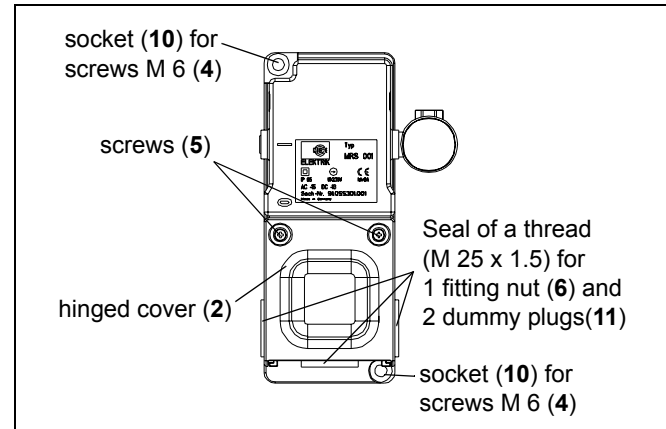

Fig. 5-4: Mounting and dismounting
2. Screw in a fitting nut (6) into the thread (M 25 x 1.5) of the misalignment switch.
4. Open the hinged cover (2) of the misalignment switch by loosening the two screws (5) (s. fig. 5-4).
5. Put the connection cable through the fitting nut (6) (s. fig. 5-4).
7. Close the hinged cover (2) of the misalignment switch and retighten the two screws (5) (s. fig. 5-4).
1. Open the hinged cover (2) by loosening the two screws (5) (s. fig. 5-4).
3. Unscrew the fitting nut (6) and pull the connection cable out of the misalignment switch (s. fig. 5-4).
4. Loosen the two screws M 6 (4), and remove the misalignment switch (s. fig. 5-4).